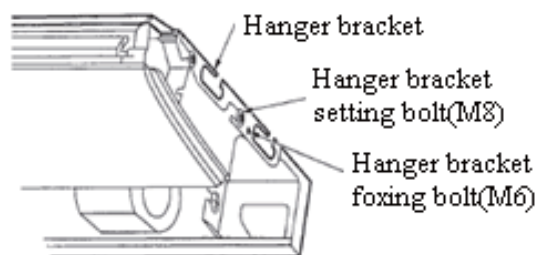

Figure 1-2-2
- Fix the hanger bracket to the suspension bolt (Refer to Figure 1-2-2).
- Screw tightly both hanger bracket setting bolts (M8) (Refer to Figure 1-2-2)
- Screw tightly both hanger bracket fixing bolts (M6) to prevent the movement of the indoor unit. (Refer to Figure 1-2-2)